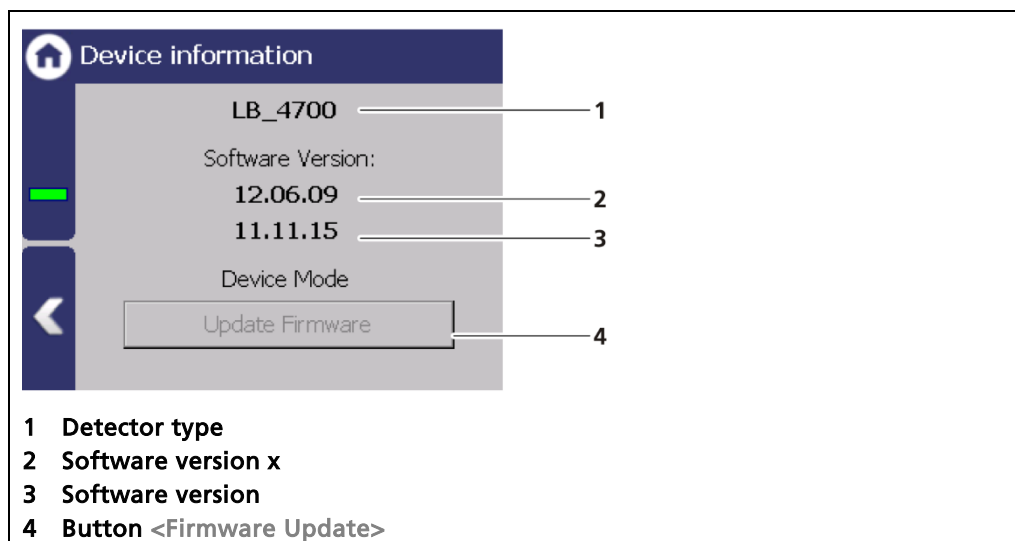

Fig. 75 Device information
This submenu shows you the type of detector (Fig. 75, item 1) as well as an overview of the software version (Fig. 75, item 2, item 3) of the detector.
3. The USB storage device is recognised by the system after a few seconds and the <Firmware Update> (Fig. 75, item 4) button can be clicked.
4. Click on the button <Firmware Update> (Fig. 75, item 4).